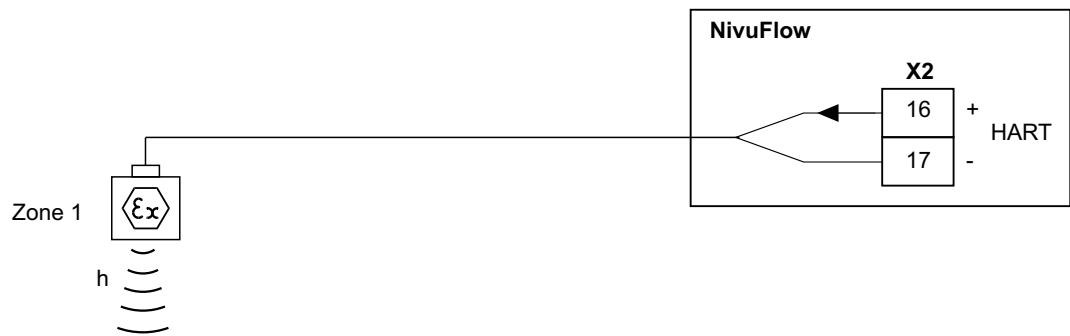

Fig. 17-5 Connecting a 2-wire sensor EX for level measurement
- ➡ Connect the 2-wire sensor according to Fig. 17-5.